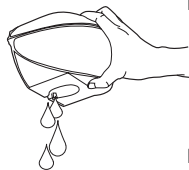

Fig.5
4. Always pour out the remaining water after use. (See Fig.5)